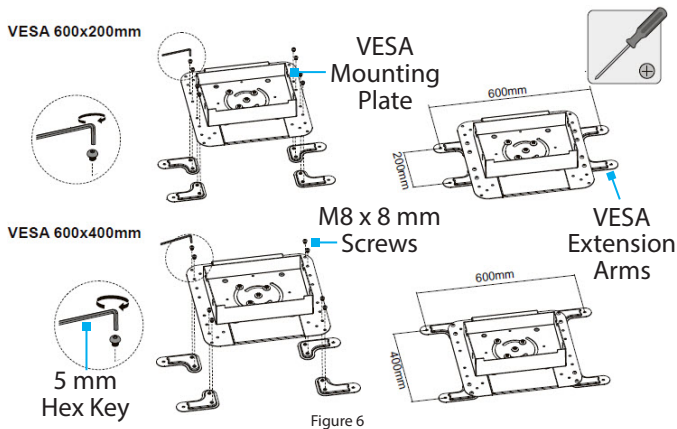

Figure 6
4. Align the hole in the thin portion of the **VESA Extension Arms (L)** with the **VESA Mounting Holes** on the left rear of the **TV**. (Figure 6)
5. Repeat step 4 with the **VESA Extension Arms (R)** for the right side.